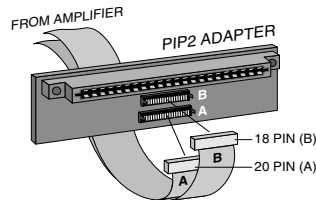

Fig. 2.2 PIP2 Input Adapter Connection
2. Remove the existing PIP module or panel (two screws). For *PIP2™* amplifiers, this may involve disconnecting the PIP from a PIP2 input adaptor (see Figures 2.2 and 2.3). If a PIP2 input adaptor is already present, do not remove the ribbon cables from the
to the two input cables of the amplifier (see Figure 2.2). Notice that the PIP2 input adaptor should be positioned with the PIP edge connector on top and facing away from the amplifier. The 20-pin cable (A) is connected first, then the 18-pin cable (B) is connected. Both ribbon cables should extend below the PIP2 input adapter.